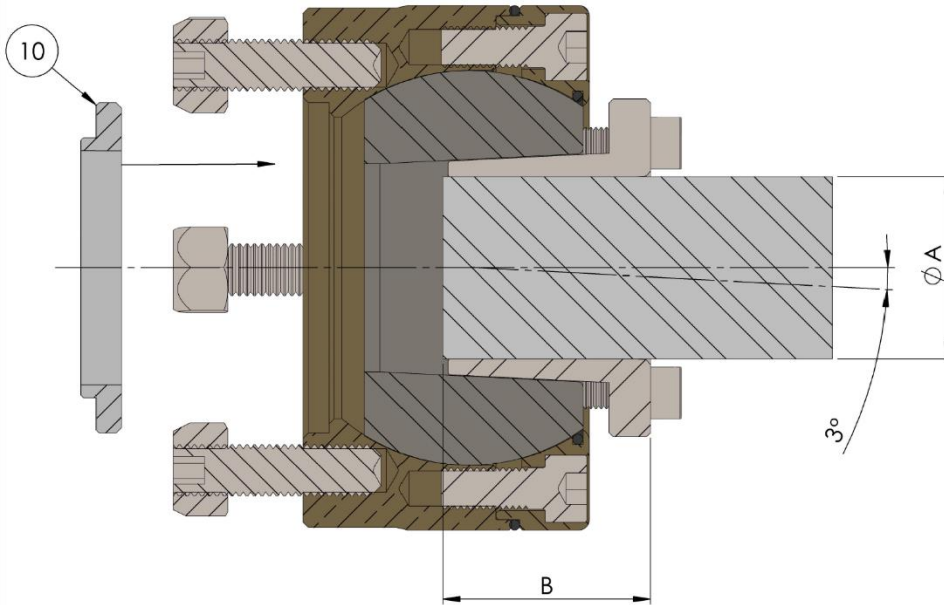

Fig 2. SigmaDrive angle drawing (Generic drawing for illustrative purposes only)
- Insert the M10 high tensile studs (11) into the corresponding tapped holes to match the gearbox output flange. Lock the studs using the loctite **290** supplied.
- Ensure the output flange register (10) is inserted into the SigmaDrive unit prior to fitting to the gearbox flange. This will ensure the SigmaDrive is centered on the gearbox and should be a snug fit. See Fig 2.
- Please apply a light oil film on the outer surface of the taper lock (7), making sure that the surface between the taper and central sphere (3) is clean and well lubricated. Use WD-40 or hydraulic oil, this will aid removal. Please do not use oil with molybdenum disulfide, high pressure additives or graphite grease on either the shaft or taper lock. These substances notably reduce the friction coefficient for the clamp unit. Do not apply any lubricant between the shaft and the inside of the taper lock (7) surfaces.**
- Carefully slide the clamp unit (7) onto the propeller shaft to the minimum depth indicated in table 2 (See Fig 2 for diagram). Maximum shaft insertion depth is 50mm.